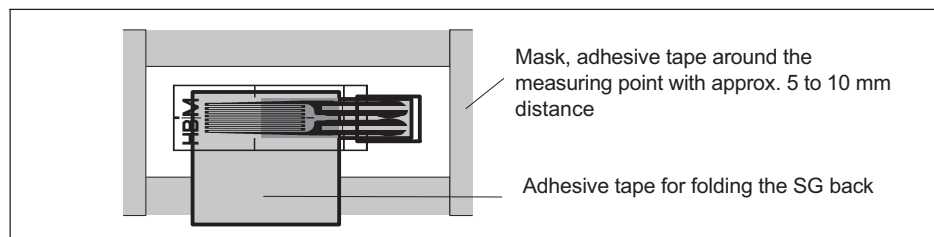

Fig. 5.4 Preparing the SG installation point
- ▶ Apply adhesive tape around the installation area at a distance of approx. 5 to 10 mm (see Fig. 5.4).